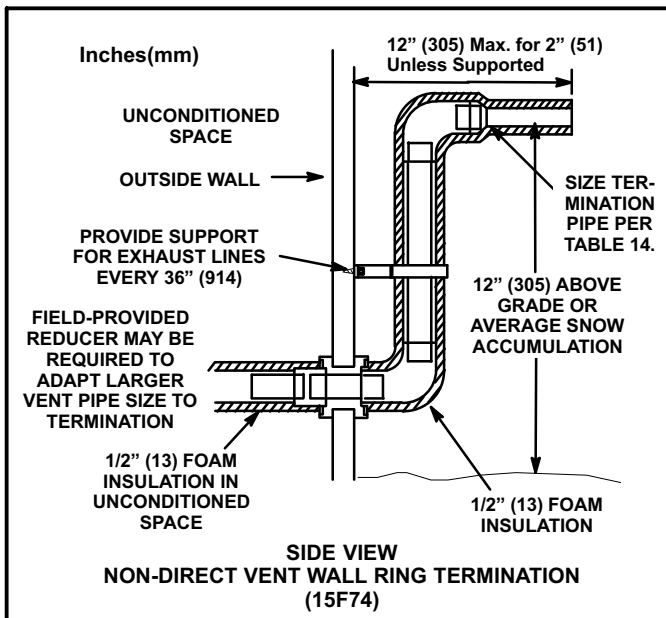

FIGURE 36
- If exhaust piping must be run up a side wall to position above snow accumulation or other obstructions, piping must be supported every 3 feet (.9m) as shown in figure 18. Refer to figure 36 for proper piping method. When exhaust piping must be run up an outside wall, any reduction in exhaust pipe size must be done after the final elbow.